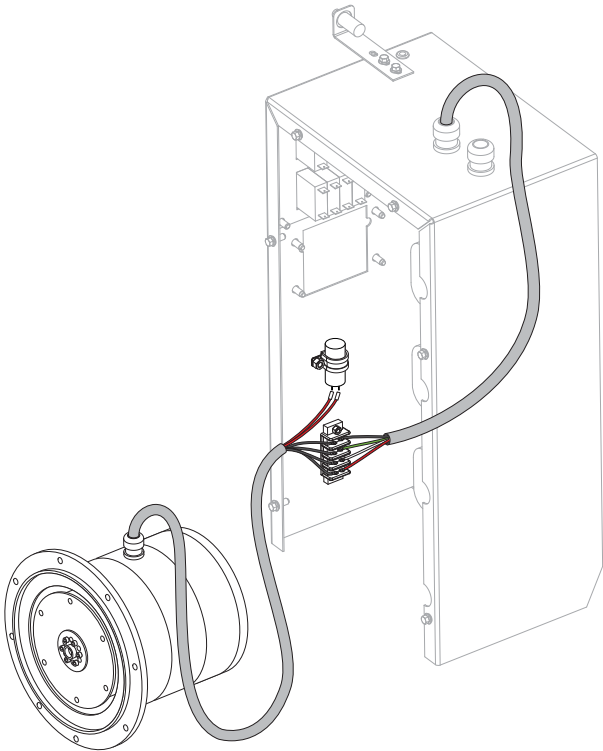
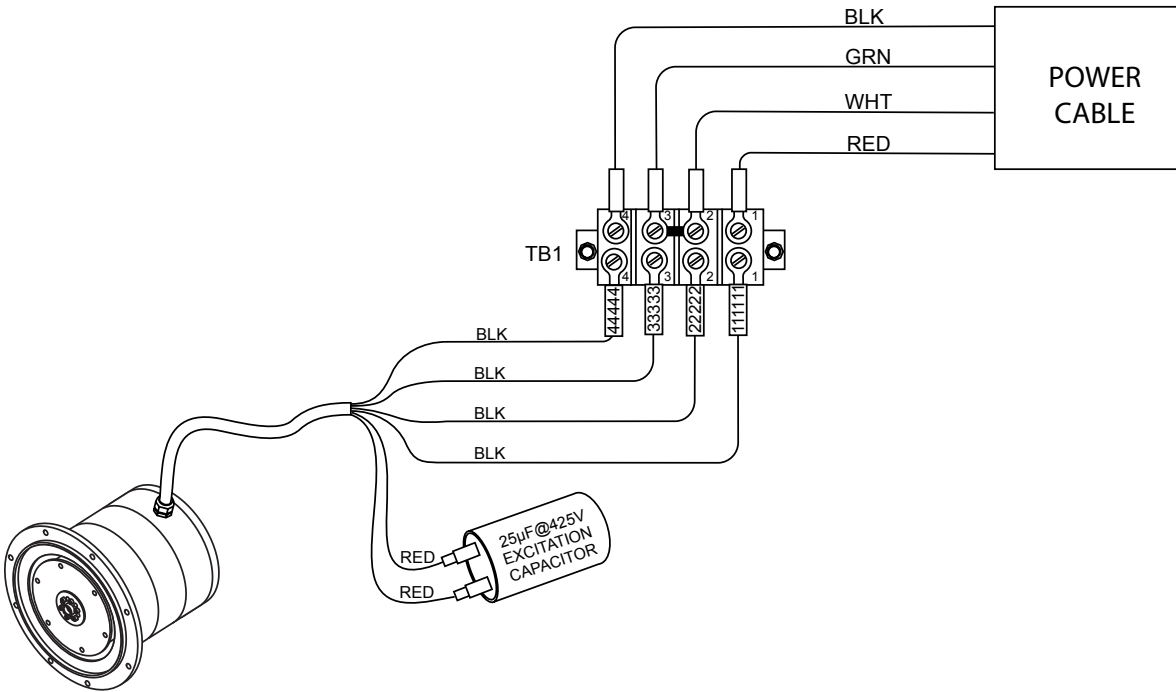

Figure 24. New Electrical Wiring
Figure 25. Wiring Diagram
2. Connect the 4-wire power cable to the terminal block. Connect the 2 red wires from the generator cable to the capacitor and the 4 black wires to the other side of the terminal block. See Figure 24, Figure 25 and Table 2.